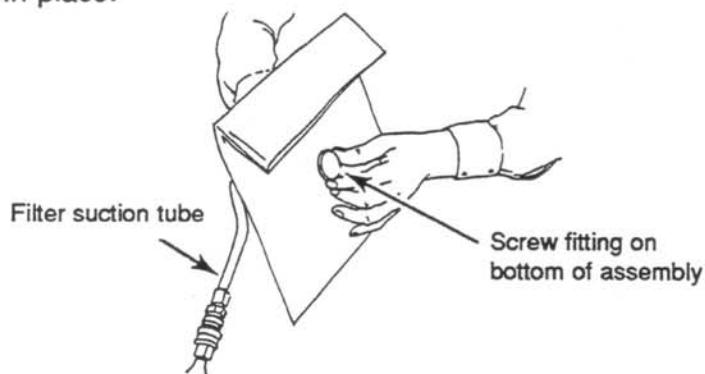
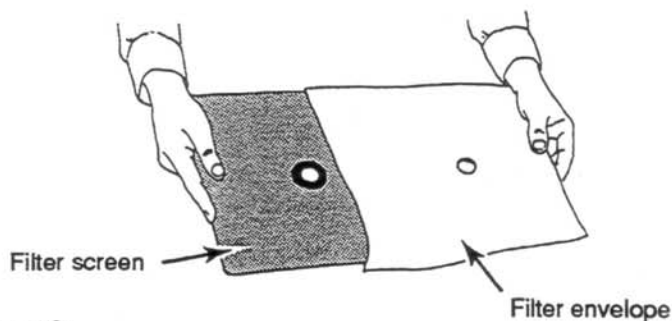

Fig. 16
Fig. 17
1. Remove the cover of the filter pan. Take out the filter assembly, shown in Fig. 16 and Fig. 17. If the filter envelope is discolored or dirty, install a new filter envelope. Remove the round filter screw from the bottom of the filter housing. See Fig. 16. Pull the filter screen and envelope away from the suction tube. Remove the old filter envelope from the filter screen and throw it away.
Slide the new filter envelope onto the filter screen. The holes in the envelope should line up with the holes in the filter screen. Line up the opening on the suction tube with the holes in the filter envelope and the filter screen. Install the filter screw through the hole in the filter screen, as shown in Fig. 16. Thread the filter screw into the opening of the suction tube.